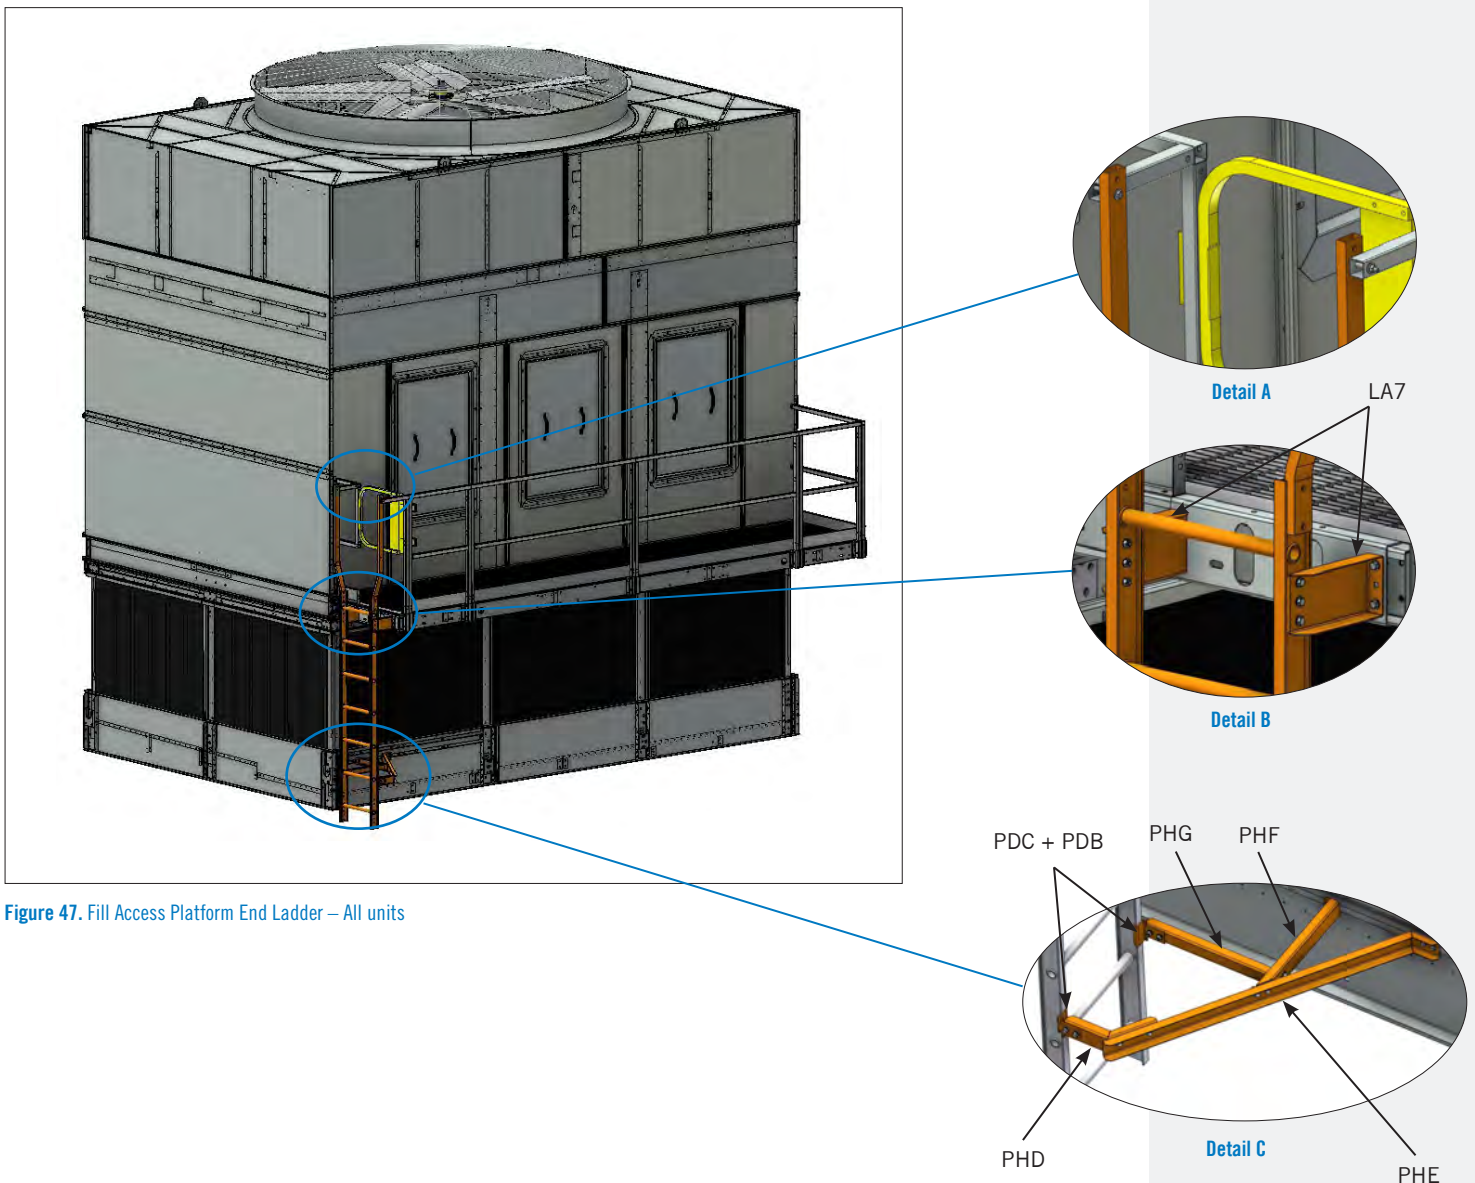

Figure 47. Fill Access Platform End Ladder – All units
1. Attach the upper ladder supports LA7 to the ladder if not already installed and then attach the ladder assembly to the platform using the 3/8" x 1 1/4" bolts provided. See **Figure 47, Detail B**.
2. Secure the ladder flares to the platform railing posts using the 5/16" x 3 1/2" bolts provided. See **Figure 47, Detail A**.
3. Install the lower ladder supports per **Figure 47, Detail C**, as follows: